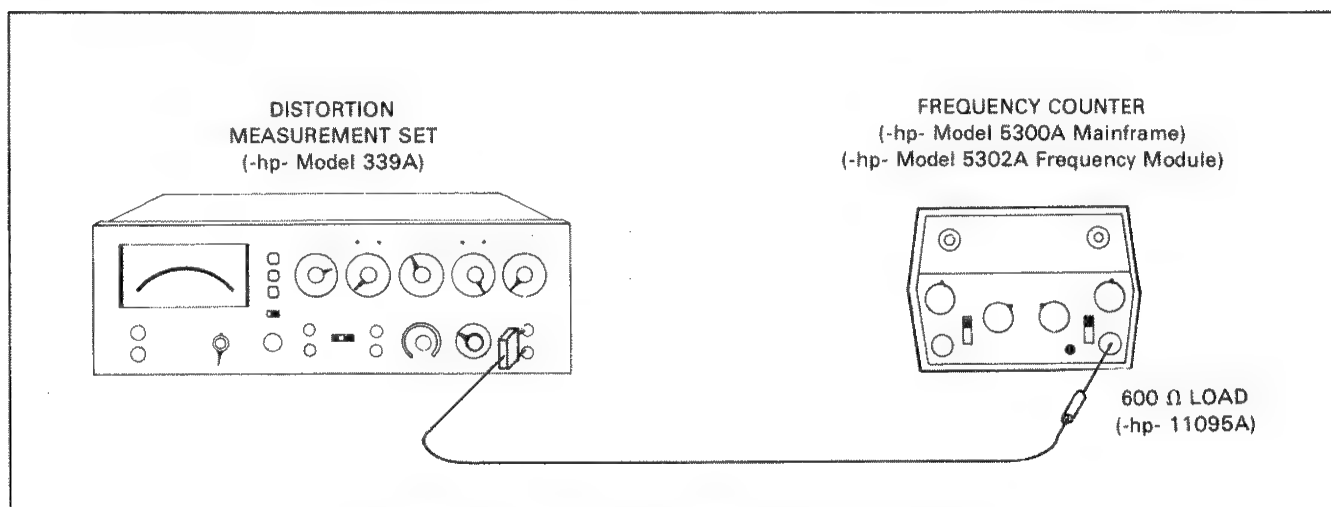

Figure 4-7. Oscillator Frequency Accuracy Test.
b. Connect the equipment as shown in Figure 4-7.